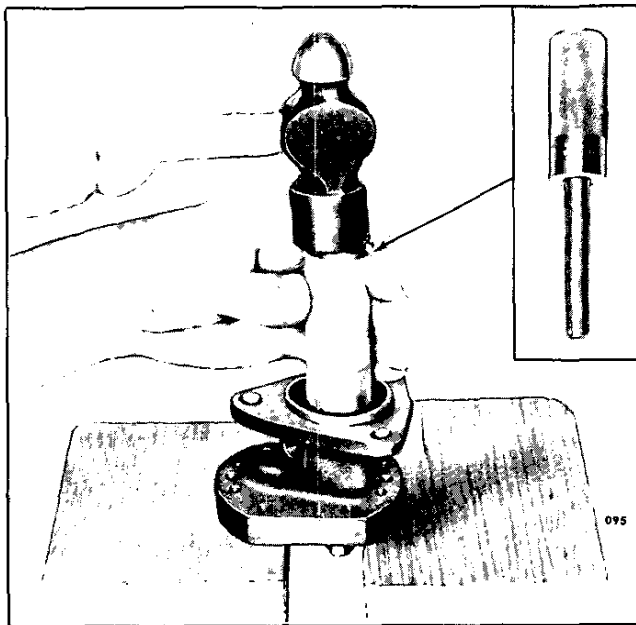

Fig. 7 - Installing Inner Oil Seal
- b. With the pump body supported on wood blocks (Fig. 7) insert the pilot of the installer handle in the pump body so that the seal starts straight into the pump flange. Then, drive the seal in until it bottoms.